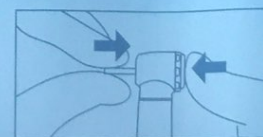

Fig. 3
i) Depress the push button and insert the bur into bottom of the cartridge, then release the button. (Fig.3)